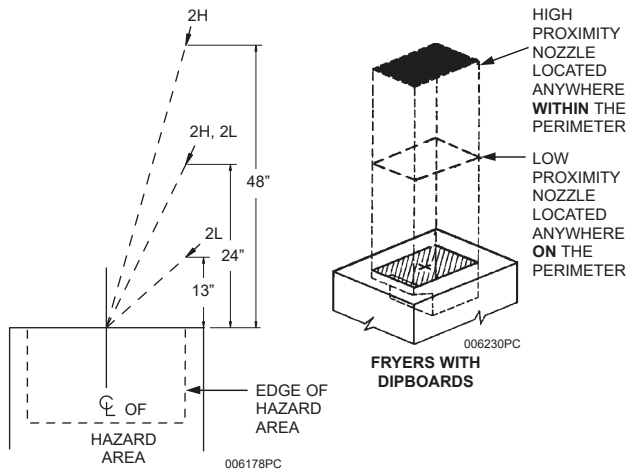

Figure 3-3b
The Model 2H nozzle, Part No. 551028, is used for high proximity fryer protection. This nozzle is a two (2) flow nozzle. The nozzle must be located **anywhere within the perimeter** of the hazard area, 24 in. to 48 in. above the cooking surface of the appliance and aimed at the center of the cooking area. See **Figure 3-3b**.
The Model 2L nozzle is used for low proximity fryer protection. This nozzle is a two (2) flow nozzle. The nozzle must be located **anywhere on the perimeter** of the hazard area, 13 in. to 24 in. above the cooking surface of the appliance and aimed at the center of the cooking area. See **Figure 3-3b**.